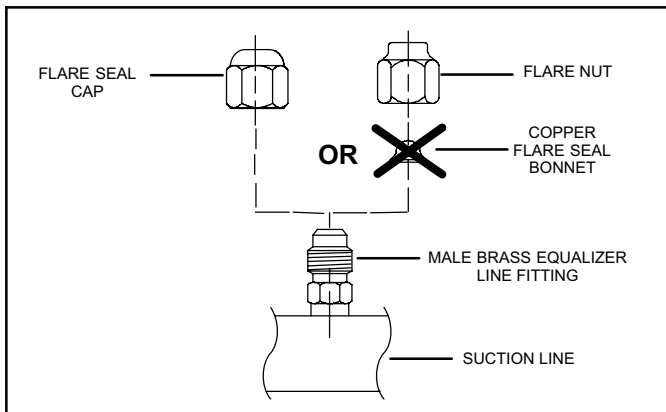

**Figure 27. TXV Sensing Bulb Installation**
6. Attach the suction line sensing bulb in the proper orientation as illustrated in figure 27 using the clamp and screws provided.